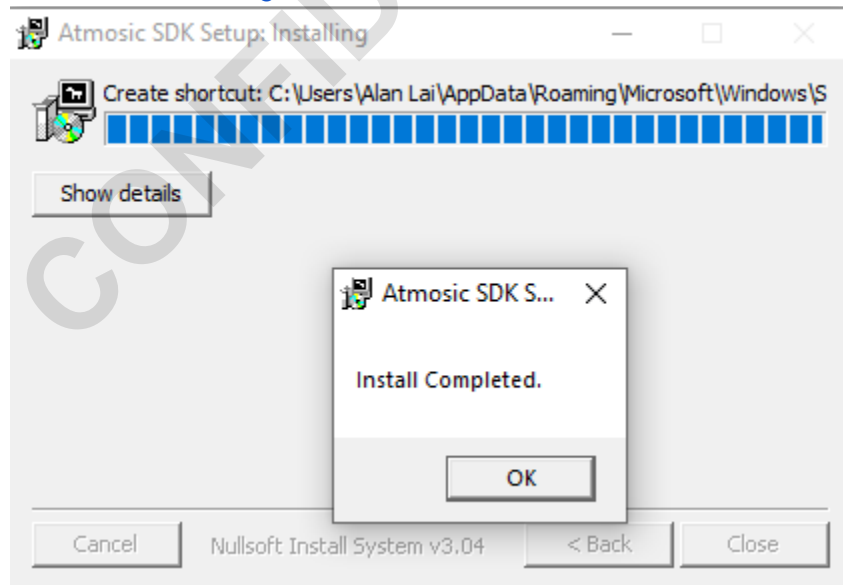

Figure 10 - Installation Completed
- Figure 10 - Installation Completed
The Windows Installer will pop-up a message to notify the installation completed, click "OK" to close the Windows Installer. See Figure 10.